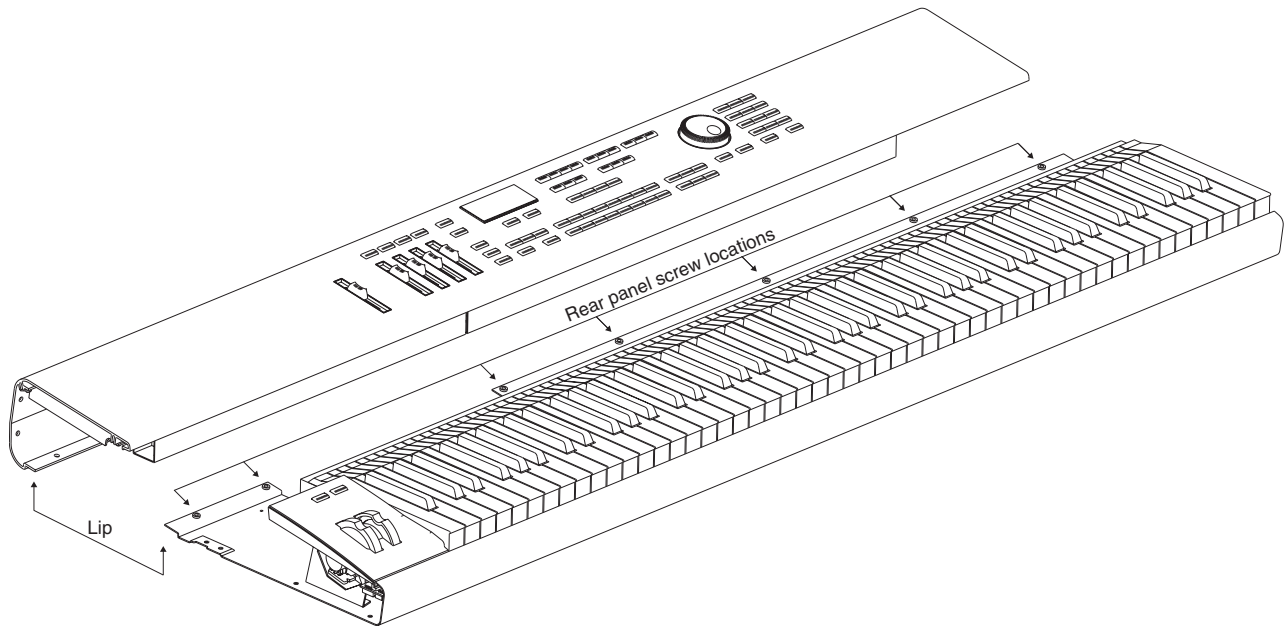

Figure 4-4 Top cover and bottom enclosure
5. Refer to Figure 4-4. The bottom edge of the rear panel and back edge of the bottom enclosure connect to form a lip. The rear panel screws secure the lip.
Note: Figure 4-4 is an illustration of the PC2. An illustration of the PC2X has not been included because the difference between the two is minimal. The only difference is the spacing and quantity of the rear panel screws. If you are servicing a PC2, there are seven screws securing the rear panel portion of the top enclosure to the bottom enclosure. If you are servicing a PC2X, there are nine screws.
2. Move the top enclosure so that the bottom edge of the rear panel is positioned under the bottom enclosure edge. See Figure 4-4 on page 4-5.